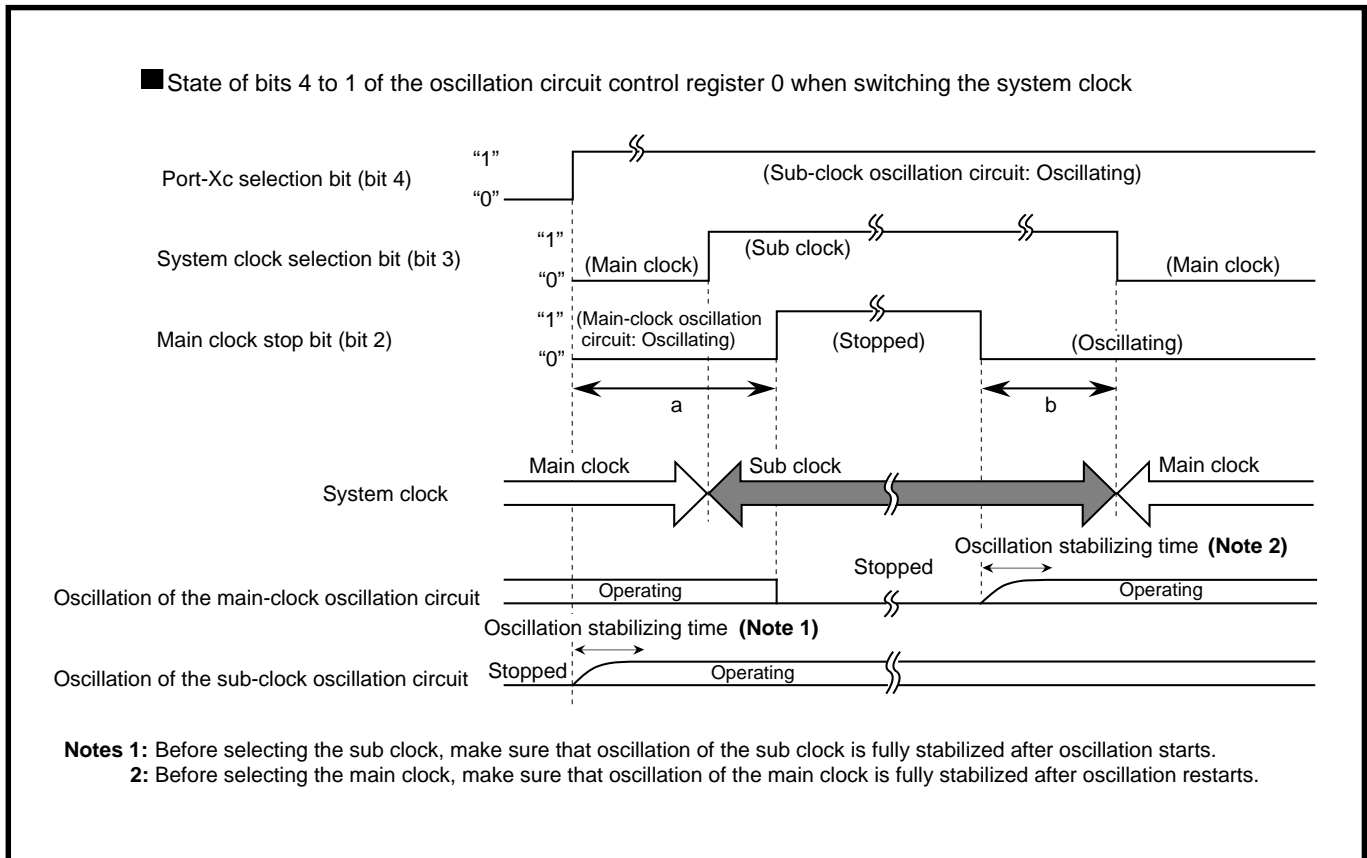

Fig. 14.3.6 System clock switching procedure (1)
After the sub clock is selected as the system clock, the main-clock supply is stopped/restarted by the main clock stop bit (bits 2 at address 6C16). (Refer to **Figures 14.3.6 and 14.3.7.**)
Furthermore, a sub clock can be the system clock by specifying the system clock selection bit after the oscillation is stabilized. (Refer to **Figure 14.3.6**.)
Figures 14.3.6 to 14.3.8 show the system clock switching procedure.
- System clock switching procedure in order to select the main clock as the system clock when the main clock supply stops. (Refer to “b” in Figure 14.3.6.)